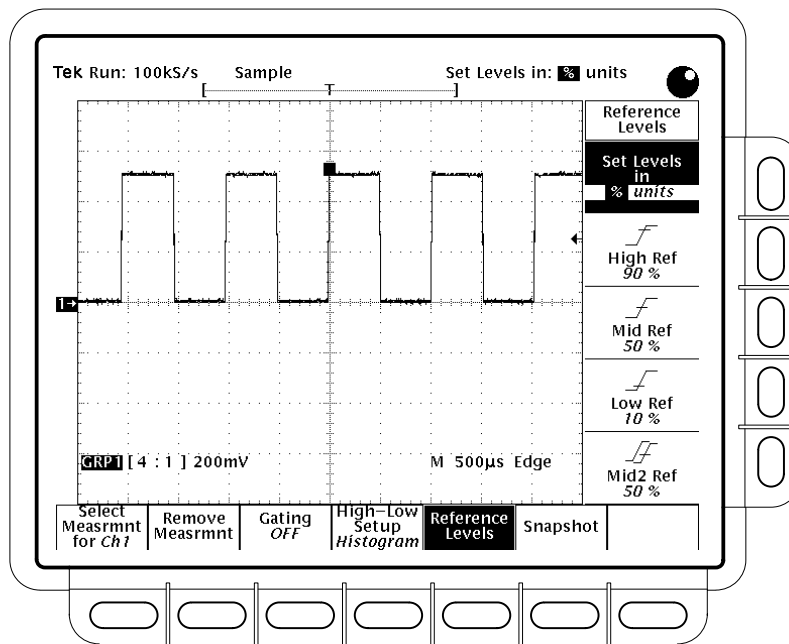

Figure 3-34: Measure Menu — Reference Levels
2. Toggle **Set Levels in** (side) to choose between **%** and **units**. (See Figure 3-34.) The two selections are described below.